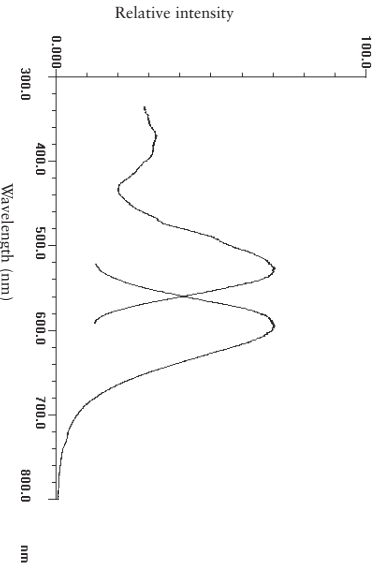

Figure 1. Fluorescence excitation and emission spectra of Deep Purple stained proteins in gel plugs taken from a 2D gel.
Deep Purple™ total protein stain is a naturally occurring, biodegradable, fluorescent compound extracted from a fungal species (1) and it has been developed as an ultra-sensitive fluorescent stain for the detection of proteins in-gel and blots following electrophoretic separation (2). Deep Purple has been shown to be up to 8 times more sensitive than similar products although, as with all protein staining methods certain individual proteins can exhibit different staining characteristics. Deep Purple is an environmentally friendly stain which is diluted in water for use and therefore allows for easy and convenient disposal. The stain may be used in conjunction with a range of excitation sources including UV light boxes, broad range visible light sources and lasers (see figure 1).